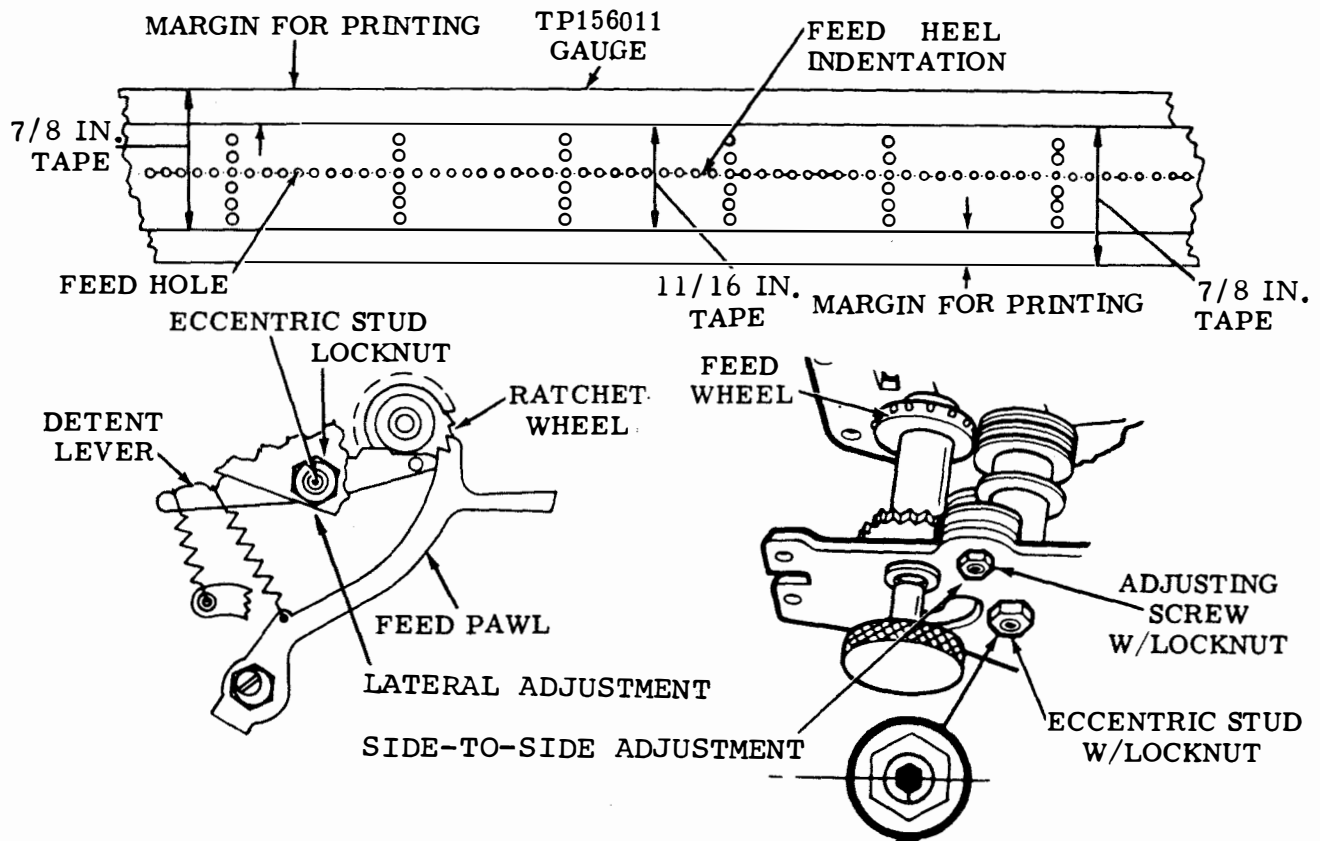

Figure 6-268. Lateral and Front-to-Rear Feed Wheel Position Detent (For Fully Perforated Tape With Indentation of Feed Holes), Front View
3. 7/8-inch wide tape having a margin for printing at bottom of tape (see figure 6-268).
(a) Refer to Figure 6-268.